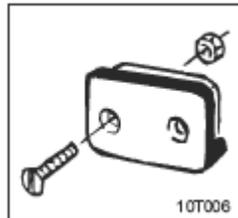

Fig. 9.4
- ❑ Attach computer bracket (Fig. 9.4) in tractor cab.